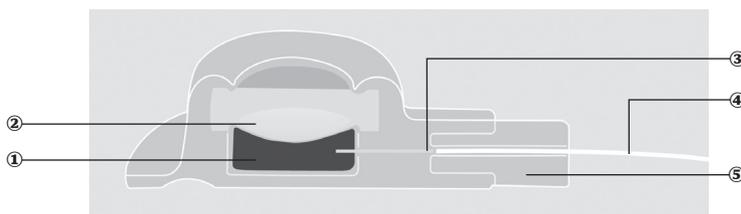

Figure 1: Illustration of the implantable vascular access port.
The implantable vascular access port consists of a port chamber ①, a septum ② and an outlet tube ③ where a catheter ④ is secured by a radiopaque click connector ⑤. Refer to Figure 1: Illustration of the implantable vascular access port.